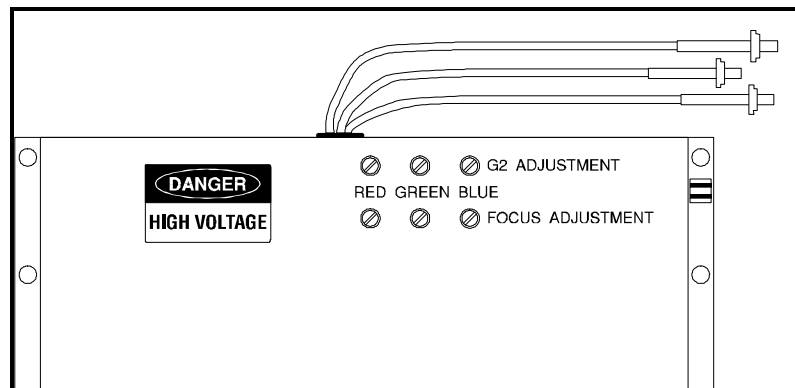
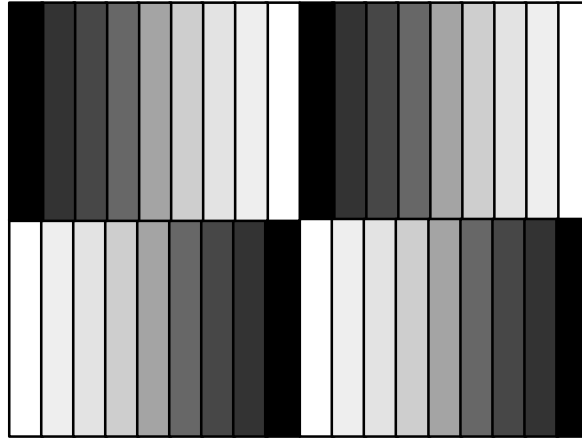

Figure 6-6. The Electronic focus and G2 adjustments are located on the high voltage power supply on the rear-left side of the projector under the cover.
Figure 6-7. Test Pattern 9 has four sections of 9 color bars each. Use the two darkest bars in the brightest section to set G2.
**NOTE:** The electronic focus adjustment focuses the electron beam in the CRT. View one color at a time for these adjustments. Recheck the focus of each color because some interaction between R, G and B may occur. The electronic focus adjustment panel, is located on the High Voltage Power Supply on the left-rear side of the projector (see *Figure 6-6*).
**NOTE:** Be careful to adjust the Electronic Focus and not G2. They are in the same area and could be mistaken for each other. (Refer to Figure 6-6).
The G2 adjustment is factory set and should not need to be readjusted. Whenever a major component like a CRT or **ILA**® has been replaced *or* the high voltage power supply has been repaired *or* if the picture size or aspect ratio changes significantly (e.g. going to an HDTV signal), G2 must be reset. G2 sets the threshold of the CRT image and is located on the high voltage power supply on the rear-left side of the projector, in the row above the electrical focus adjustments (*see Figure 6-6*).
2. Using Test Pattern 9, adjust Green G2 (be sure you are adjusting G2-refer to Figure 6-6 or read the label on the panel.) on the left side of the projector. TEST PATTERN #9 has four identical sections of nine color bars each (see Figure 6-7), going from black to full brightness (white). Use the **dark** bars in the **brightest** of the four sections and adjust for a distinct line between the two **darkest** bars and a *normal transition* from one bar to the other.